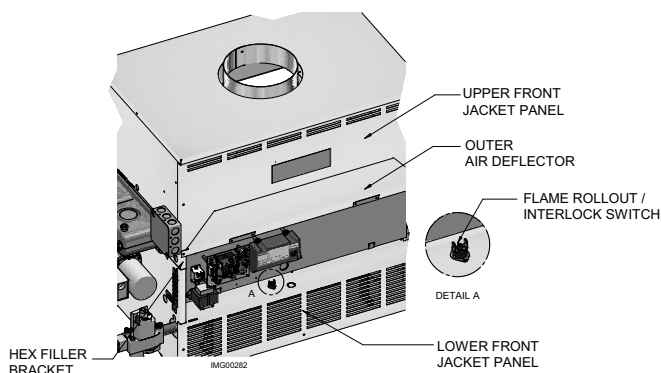

Figure 7-2 Outer Air Deflector and HEX Filler Bracket
- d. Remove the outer air deflector (FIG. 7-2)
- g. Disconnect the wiring from the flame rollout/interlock switch, see FIG. 7-2, page 47.
- q. Remove the heat exchanger (HEX) filler bracket (FIG. 7-2).